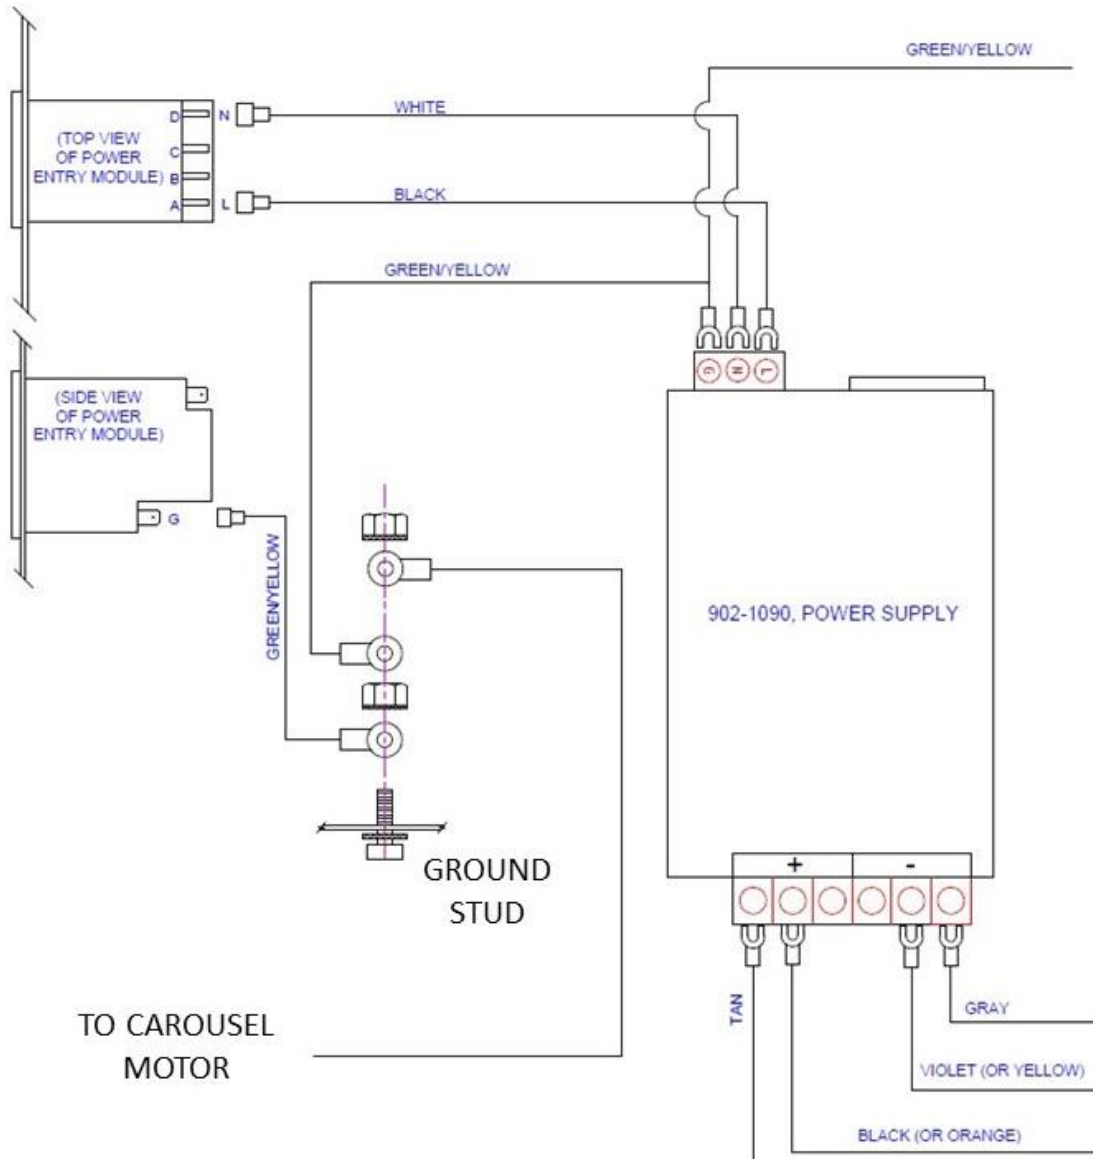

Figure 3.5. Power Module and Supply Connections
- Disconnect all wiring from Power Supply (Figure 3.5) using a short length #1 or #2 Phillips screwdriver.
- Disconnect wiring from Module. (Figure 3.5)
- Reconnect wiring. (Figure 3.5)